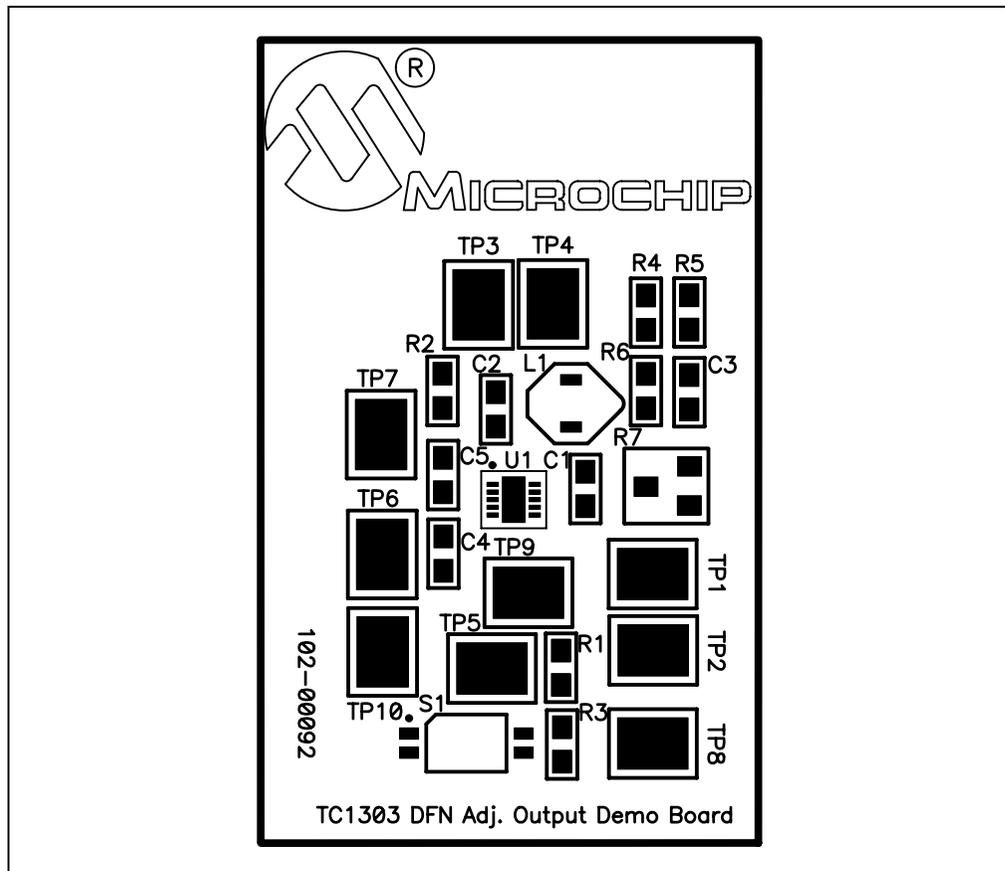

FIGURE 2-1: Setup Configuration Diagram
1. Apply the Input voltage (2.7V to 5.5V for normal operation) to the board test points to TP1 ($+V_{IN}$) and TP2 (P_{GND}) (refer to Figure 2-1).